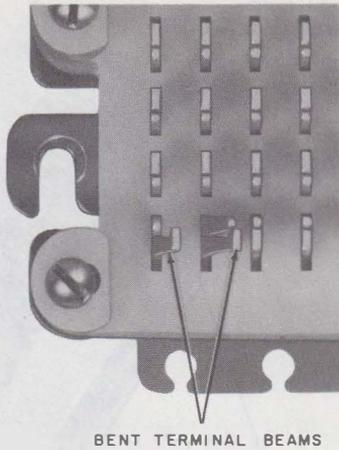

Fig. 15—Misaligned Terminal Beams
6.02 Terminals which have been bent or misaligned, as shown in Fig. 15, may be corrected by using long-nose pliers (Fig. 16). The bent beam should be moved until it is aligned with its mate or with other terminals of the same row. Care should be taken not to move beams or terminals